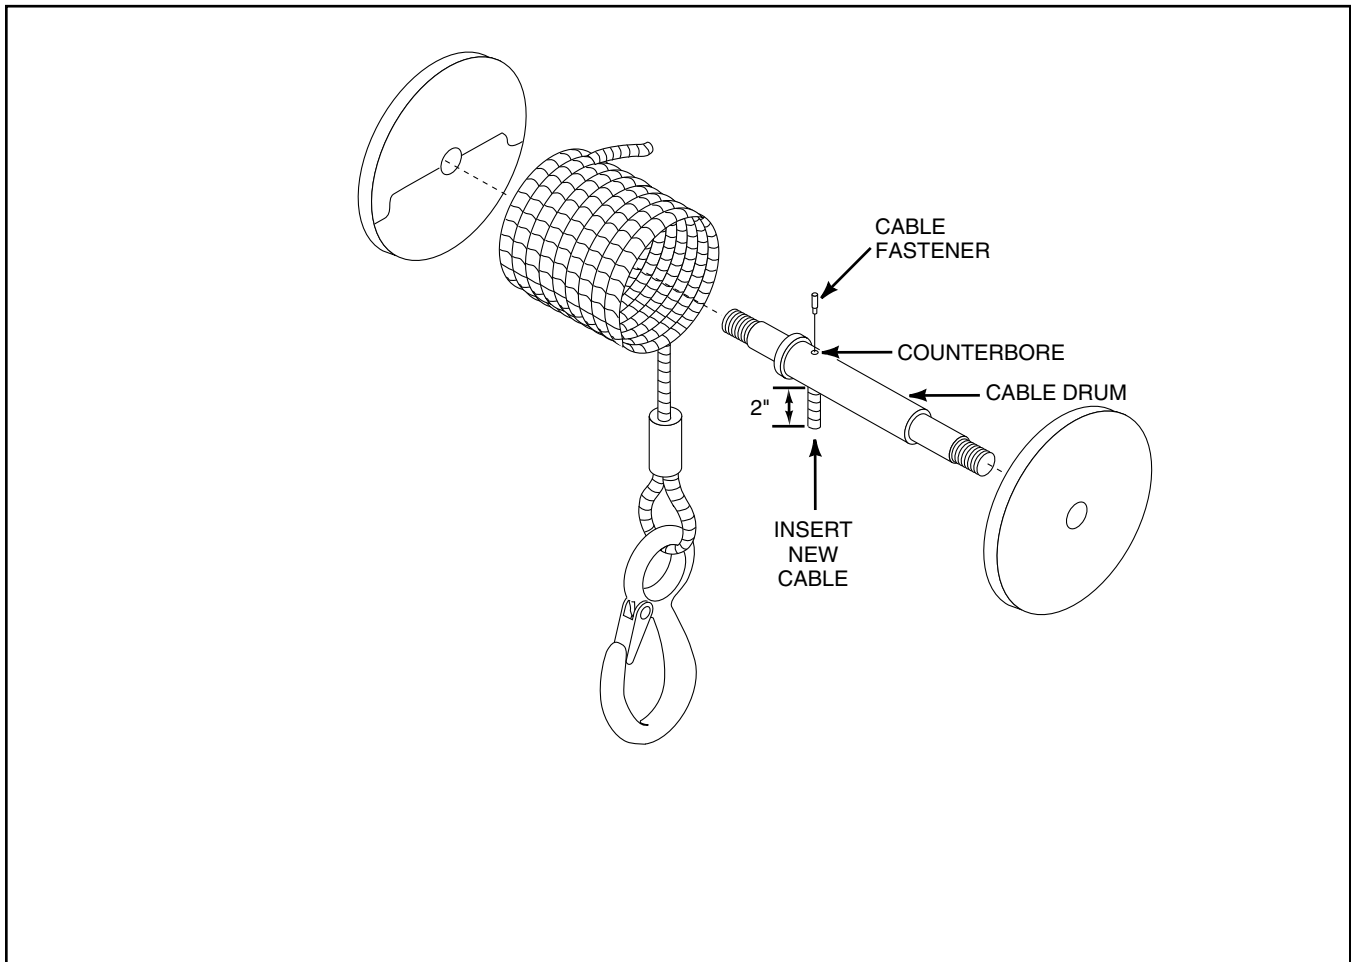

Figure 3 Cable Replacement
3. Cut the old cable approximately 2" from the drum and push the remaining cable and fastener through the drum to remove (See Figure 3).
2. Bad plug.	<ol style="list-style-type: none"> 1. Check the male connection at the end of the wiring kit by using probe light across the two prongs inside the plug. If the light illuminates, the wiring is correct. 2. Remove the two cover connecting screws and rods (See Figure 3) from the cover containing the female socket. Plug the male socket into the female socket. Use a probe light across the two connections on the underside of the female socket. Replace the appropriate socket if the light does not illuminate. If the light illuminates, check the switch and/or motor.